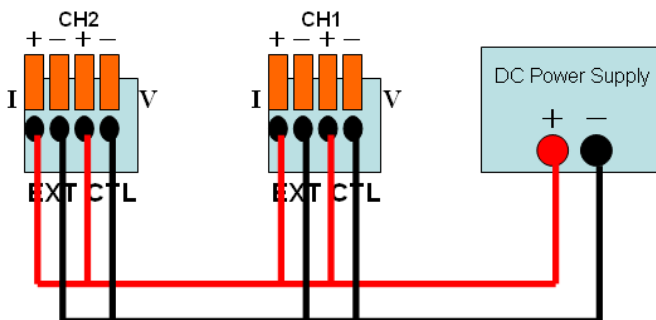

Figure 38- Dual Channel External Analog Voltage Input Calibration Setup
5. To begin calibration with the external resistor, remove the DC source and connect the precision resistor to the control card, as shown in Figure 38(right) below.
7. Once finished, **CH1 EXT. CURR Res** will be selected. Connect the precision resistor as shown in Figure 38(left). Press to proceed with the calibration.